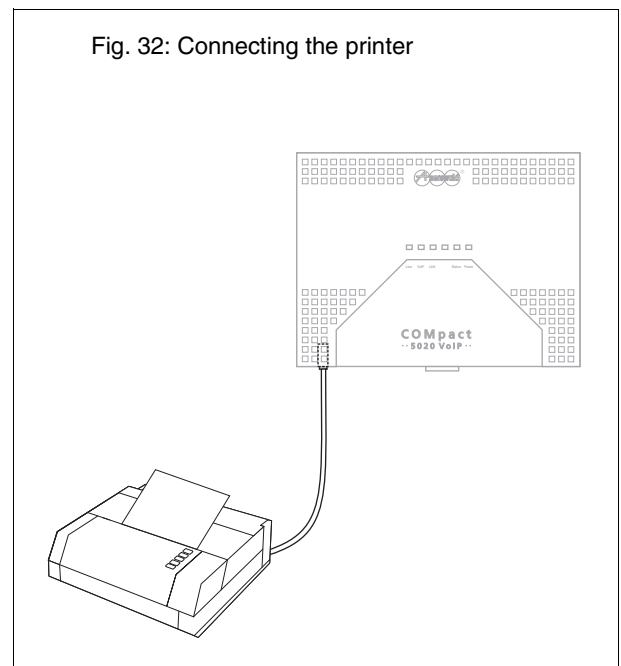

Fig. 32: Connecting the printer
1. Insert the flat connector on the USB cable into the USB socket on the PBX, and insert the other connector into the USB socket on the printer. See Fig. 32.